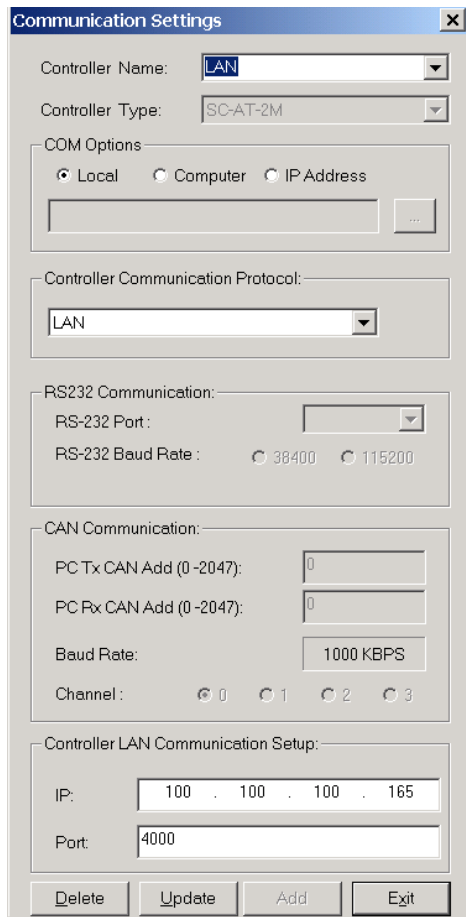

Figure 6: Communication Settings Dialog Box
- ◆ In the "Communication Settings" dialog box (see Figure 6) choose the "Controller Name".
- ◆ Type the IP address (set by the network administrator) in the "IP" window (see Figure 6).
- ◆ Define one of the following communication ports in "Ports" window: 4000, 4001, 4002, (see Figure 6).